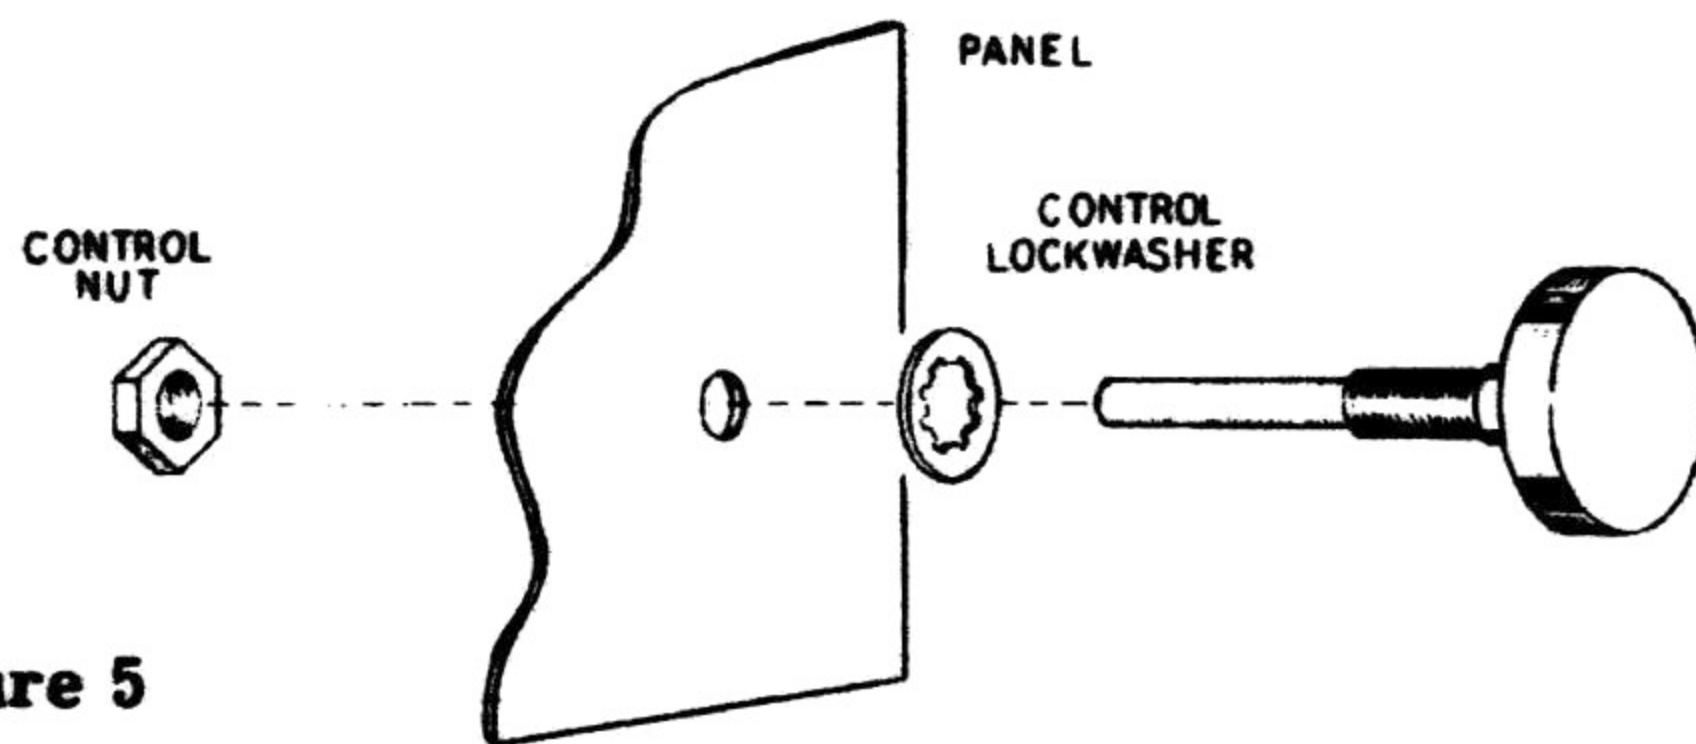

Figure 5
- ( ) Mount the 600  $\Omega$  oscillator control with a control lockwasher and a control nut. See Figure 5.